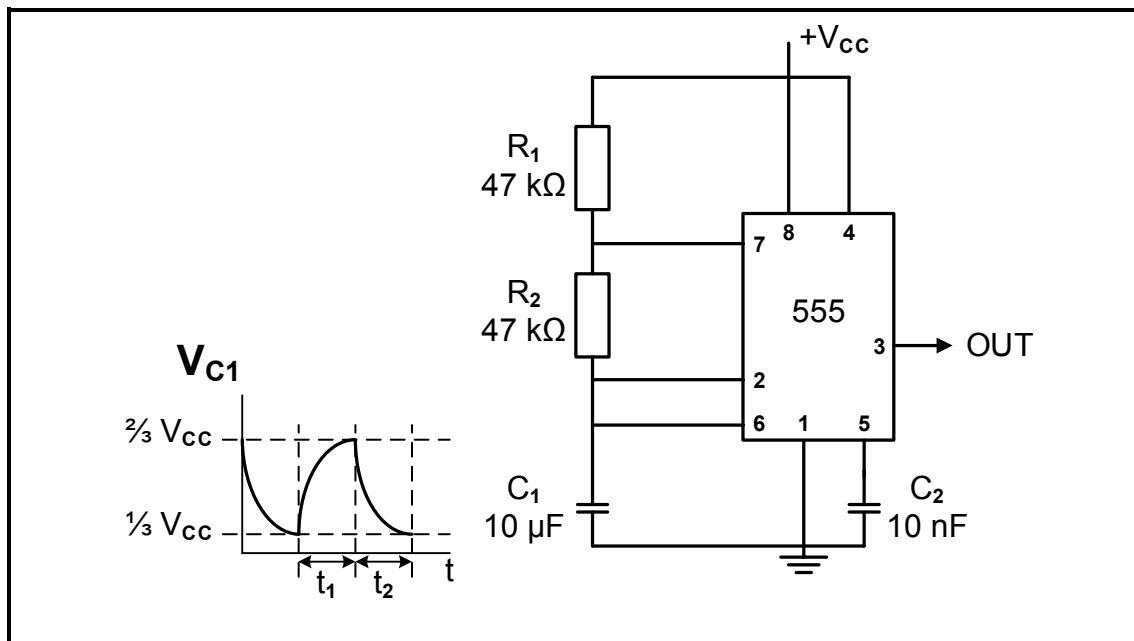

FIGURE 2.3: 555 IC ASTABLE MULTIVIBRATOR
- 2.3 FIGURE 2.3 below shows the 555 IC astable multivibrator and the voltage graph of capacitor C_1 . Answer the questions that follow.